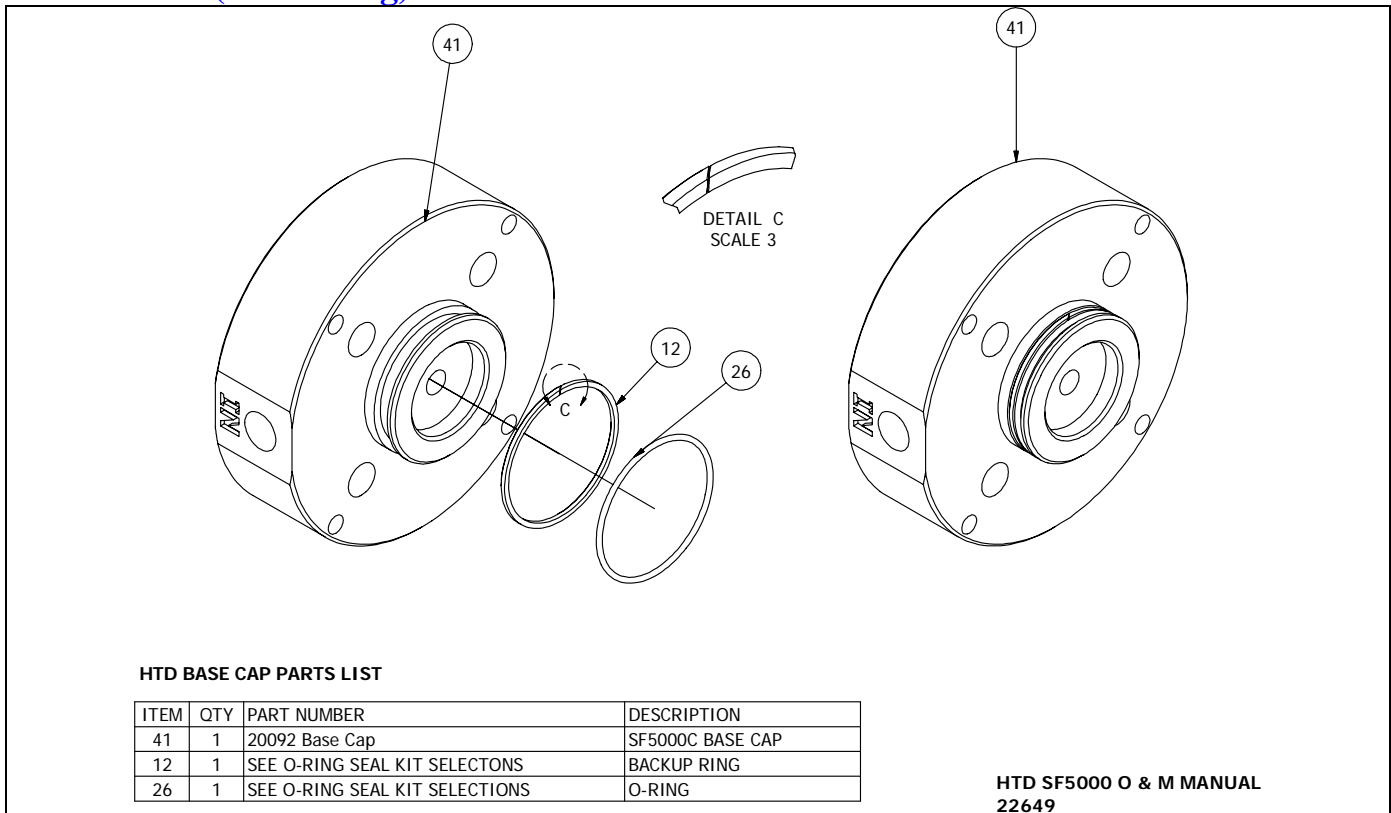

Figure 4
- 1) When replacing valve seals, it is recommended that the new seals be lubricated with Parker Super Lube or equivalent. Install the backup ring on low pressure side of o-ring and make sure the backup ring is lined up at the joint. See Fig. 4 Page 13